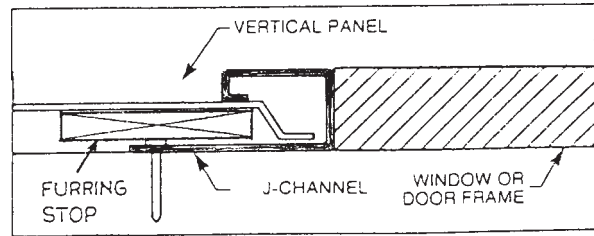

FIG. 29 Fastening of Wood Furring Stop
10.8.1 If the panel is cut down in the V-groove, fasten a wood furring stop as shown in Fig. 29, with fasteners that do not penetrate the legs of the J-channel or corner post, insert the cut side over the furring stop and into the J-channel, locking the other side into the last panel. (See Fig. 29.)